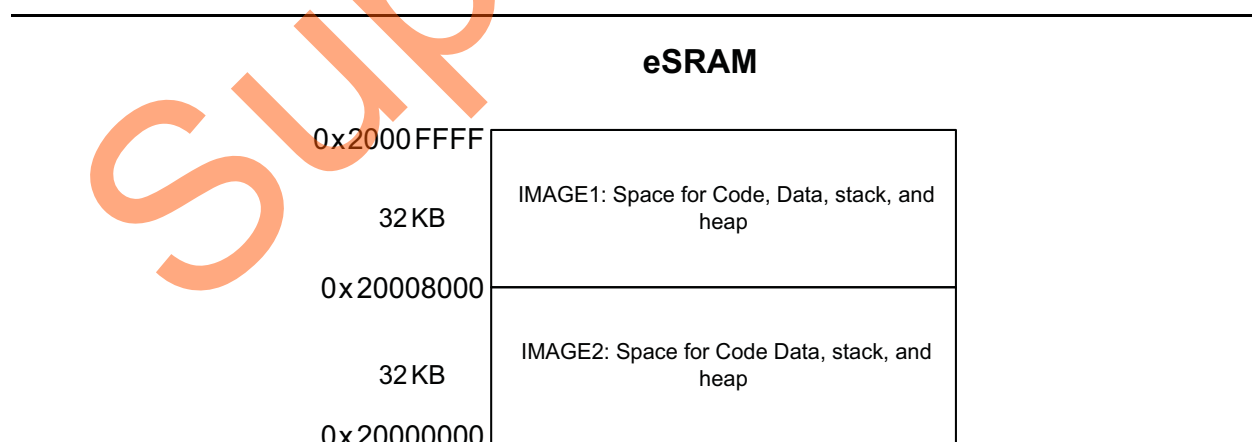
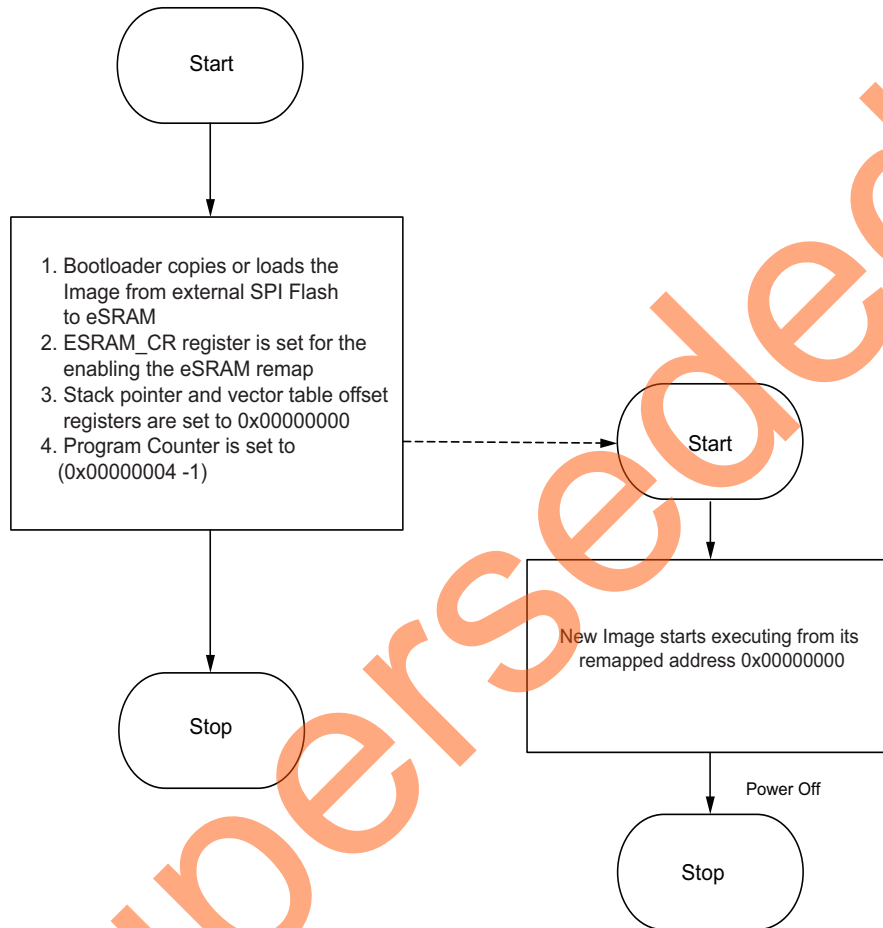

Figure 11 • Example Scenario of Multiple Executable Images in eSRAM
Figure 13 • Logic for Moving Execution Control to New Image in eSRAM with Remapping
Figure 11 shows the example scenario of the executable images in eSRAM regions.
The above scenario, shown in Figure 11 on page 12, describes two images, which can be remapped to the bottom (0x0000_0000) of the Cortex-M3 processor or can be made executable for the Cortex-M3 processor. To create the independent executable images with required memory map, the linker scripts need to be created with required memory map. The linker scripts are provided in the "Appendix A: Design Files" section. After creating the images required for memory map in Production mode, copy the images to an external memory such as SPI Flash, eNVM, and so on; and are code shadowed by the bootloader to the eSRAM whenever it is required to execute the new images.
- **With Remapping:** In this approach, the new image address can be remapped to the bottom (0x0000_0000) of the Cortex-M3 processor by using the ESRAM_CR registers. As the new image address is remapped to bottom (0x0000_0000) of the Cortex-M3 processor code region, the linker scripts take care of building the images from the bottom (0x0000_0000) code region. The eSRAM address must not be used instead offset address from zero has to be used in the linker scripts for this approach. This approach is explained in the flow chart shown in Figure 13.
For example, for the memory map of the different images explained in the Figure 11 on page 12, the images are built with 0x00000000 as base address. If it is required to jump from the Image 2 to Image 1, use the following steps (as explained in the Figure 13).